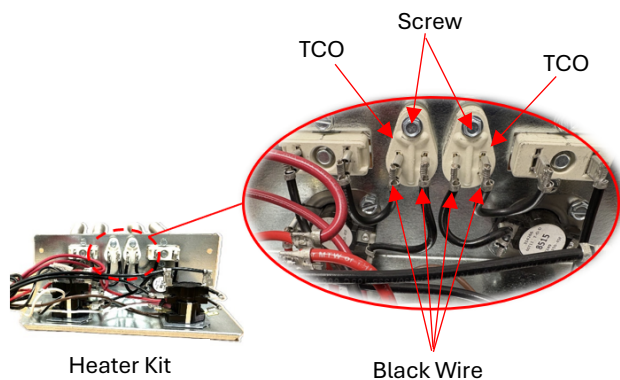

Fig. 2 – Heater Kit w/ TCO
2. Locate the TCO(s) and disconnect the 2 black wires per TCO. Using a multimeter, measure continuity/resistance of the fuse element by placing the test probes across the two terminals to verify if the fuse has failed. The quantity of TCO's depends on the heater kit model. The heater kit model shown in Figure 2 has two TCOs.